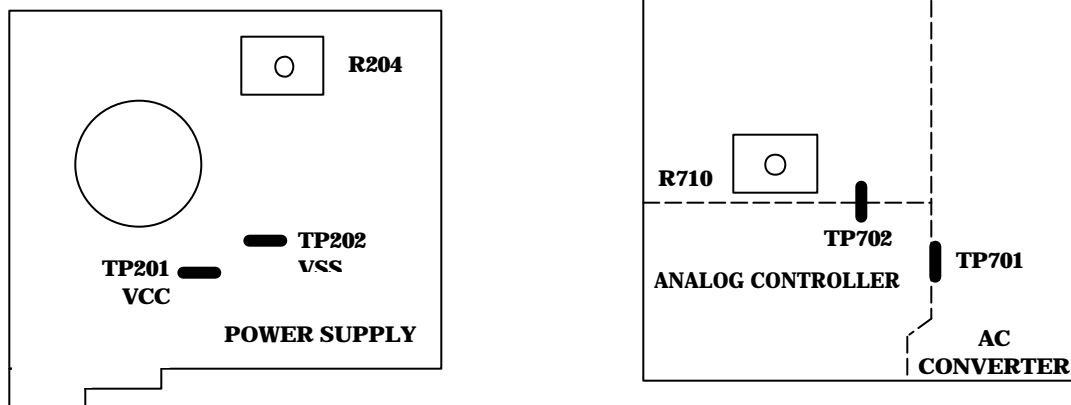

Figure 3. Power supply - adjustment locations.
(1) Connect multimeter **INPUT HI** to TP201 VCC and **LO** to TP202 VSS (fig. 3). If multimeter does not indicate between +4.9 and +5.2 V dc, perform **b(1)** below.
(2) Connect multimeter **INPUT HI** to TP701 and **LO** to TP702 (fig. 3). If multimeter does not indicate between +4.9 and +5.2 V dc, perform **b(2)** below.
(1) Adjust R204 (fig. 3) for a multimeter indication between +4.9 and +5.2 V dc (R).
(2) Adjust R710 (fig. 3) for a multimeter indication between +4.9 and +5.2 V dc (R).